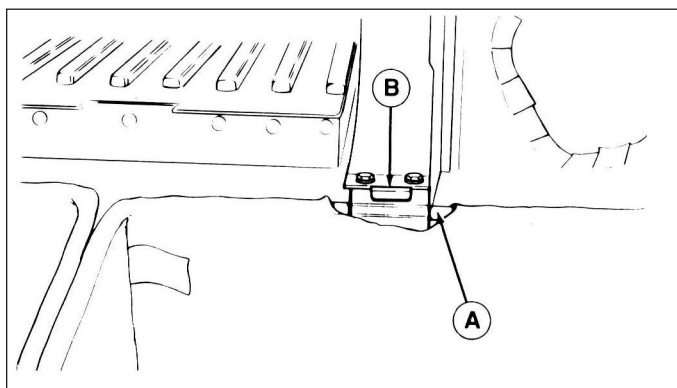

Figure 18.
6. Open grass bag cover and install grass bag frames (A, figure 18) to support brackets (B). Make sure cover handle latches to grass bag frames.